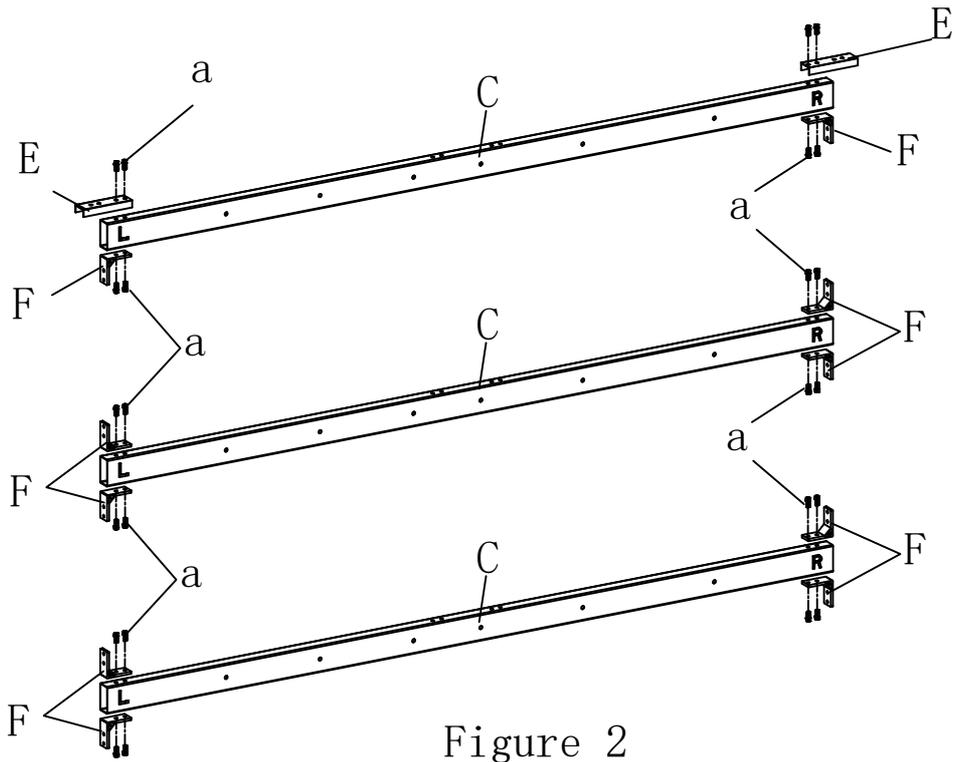

Figure 2
2.1.1 Take out the aluminum corner code and the connecting piece of the crossbeam, install it in combination with the three crossbeams as shown in the diagram, and lock it with screws on both sides for backup. (Figure 2)